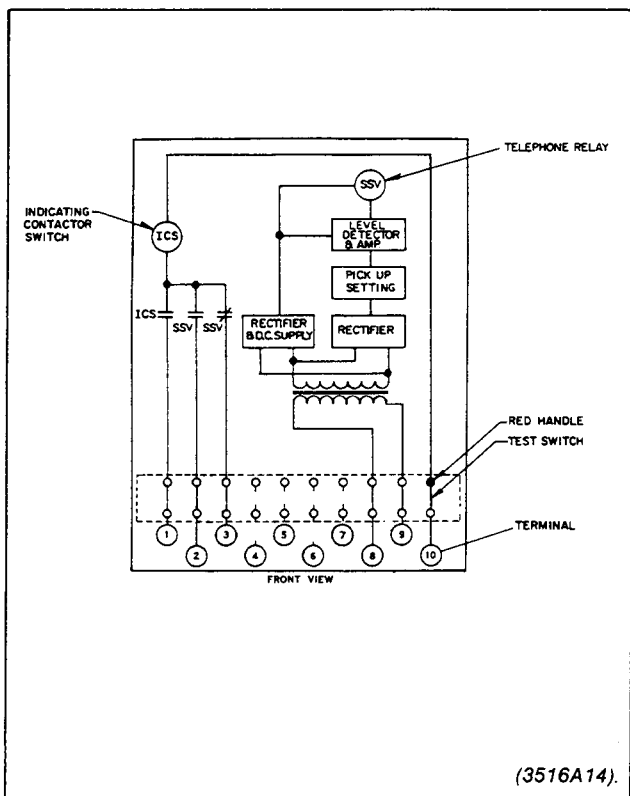

Fig. 1. Block Diagram of the Type SSV-T Relay in the Type FT-11 Case
The block diagrams of the SSV-T and SSC-T are shown in Fig. 1, 2, and 3 and the internal schematic are shown in Fig. 4, 5, and 6. For overvoltage and overcurrent application, the transistor Q2 is normally not conducting and the telephone relay is deenergized. The transistor Q1 is used as an emitter follower. When ac voltage or current is applied to the primary of the transformer (T) a voltage is produced on the secondary side that is proportional to the input. The potentiometer (R2) is for the pick-up setting. If the voltage from rectifier (Z1, Z2, and C2) is large enough to exceed the breakdown voltage of zener diode Z5, the zener diode conducts to turn on the transistor Q2 and operate the telephone relay.